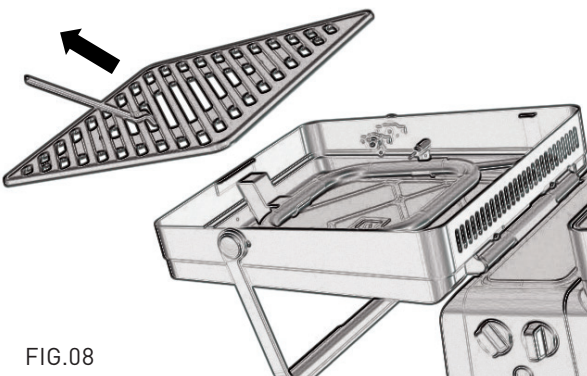

FIG.08
3. Pull outwards to remove grate from the grill. (Fig. 08)